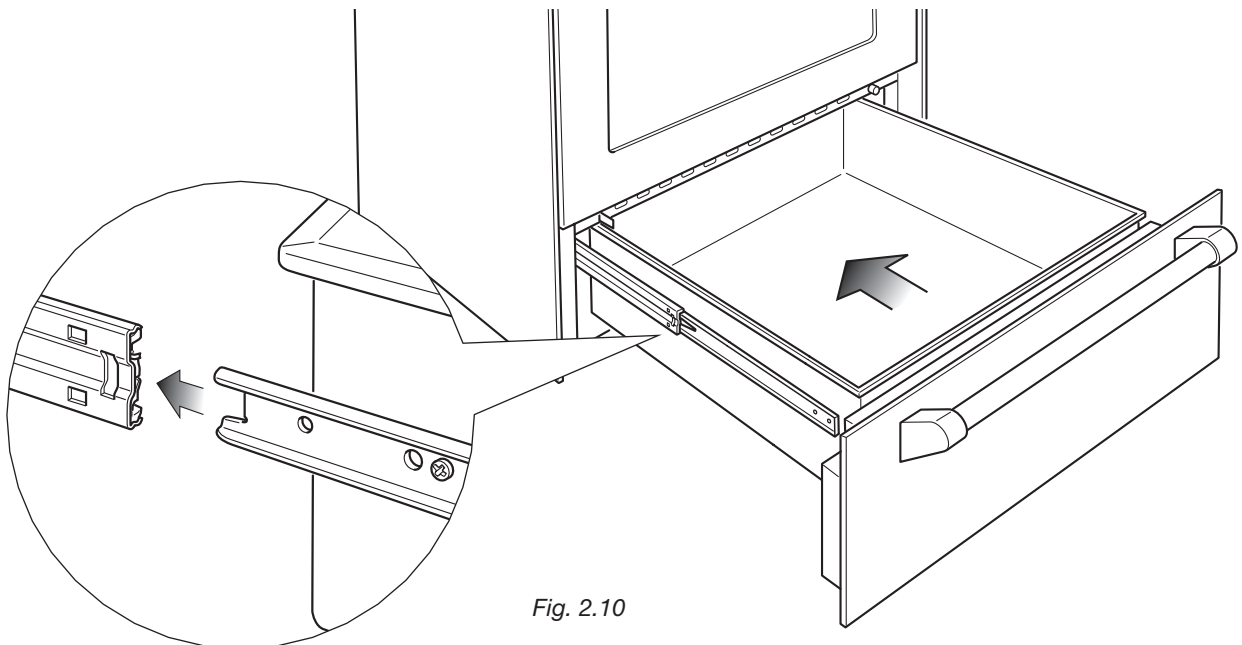

Fig. 2.10
**Fitting the warming drawer (fig. 2.10):**
1. Insert the drawer guides into the range guides (fig. 2.10)